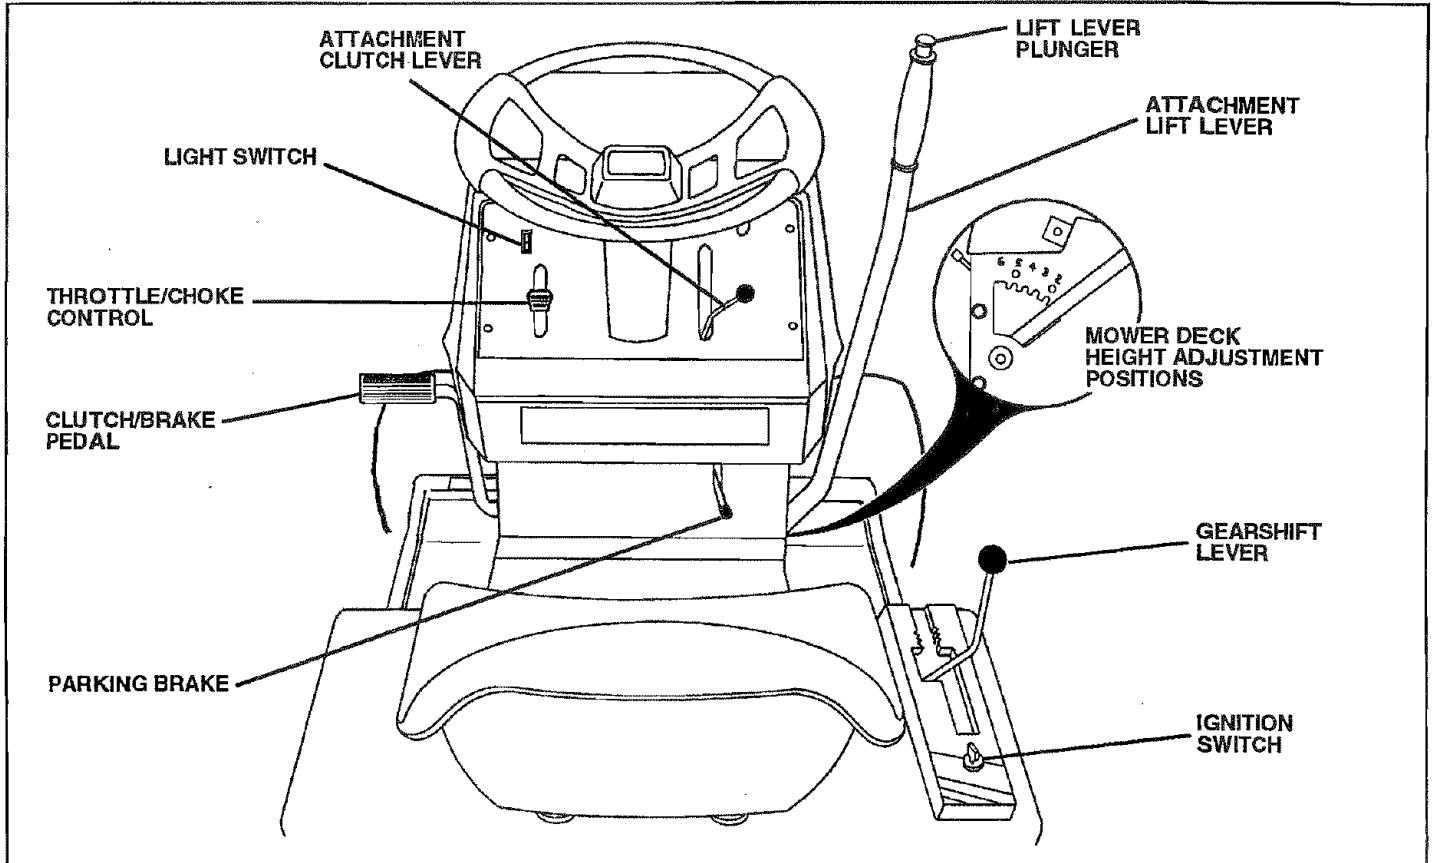

FIG. 8
- Slide seat until a comfortable position is reached which allows you to press clutch/brake pedal all the way down (See Fig. 8).
## TO ADJUST MOWER CUTTING HEIGHT (See Fig. 8)